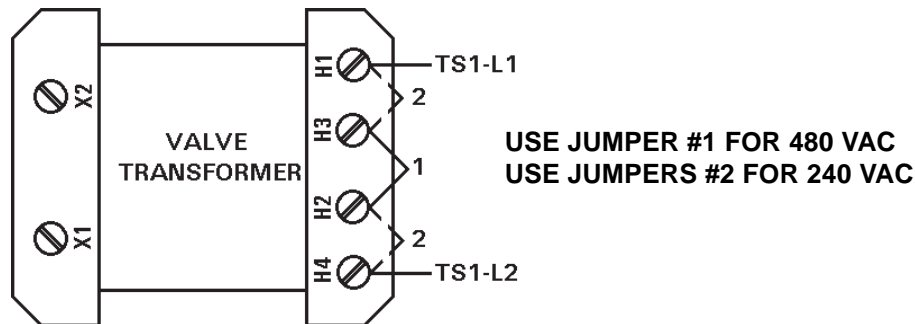

Figure 4-2. Valve Transformer jumper settings
3. **Valve Transformer:** Jumpers on the valve transformer H1, H3, H2, and H4 must be configured to match the line voltage (see Figure 4-2). The standard Valve Transformer included with the EN1000/EN1001 (either 50 VA or 150 VA) is configured for 240 VAC or 480 VAC input; for 380 or 575 VAC operation, consult the factory.